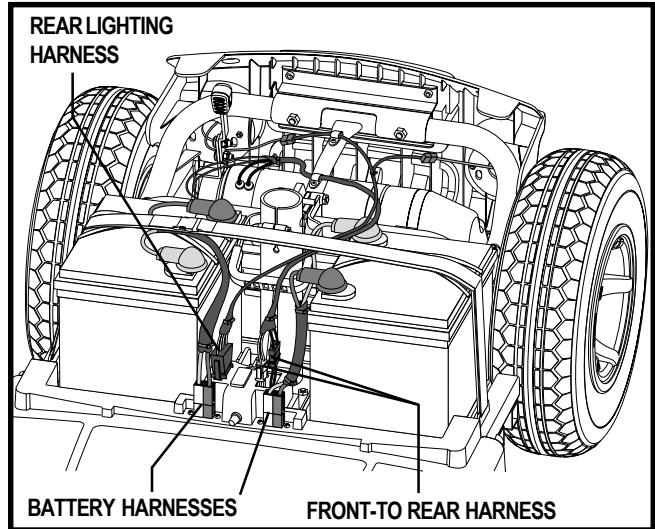

Figure 22. Harness Connections
6. Unplug both battery harnesses. Pull each harness straight up. See figure 22.
4. Slowly separate the two sections. See figure 22.
6. Connect the front-to-rear harness, rear lighting harness, and both battery harnesses. See figure 22.